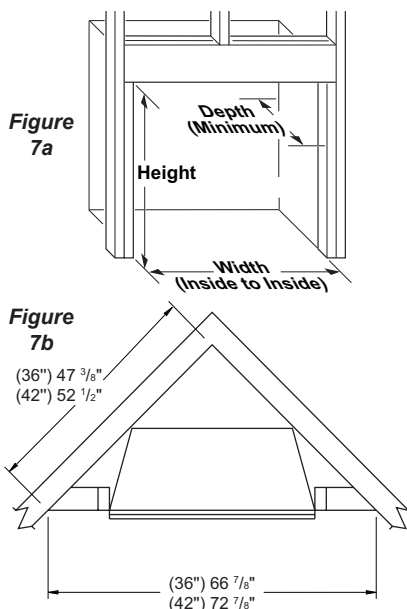

Figure 7 - Rough Opening for Installing in Wall
5. Attach firebox to wall studs using nails or wood screws through holes in nailing flange (see Figure 7).